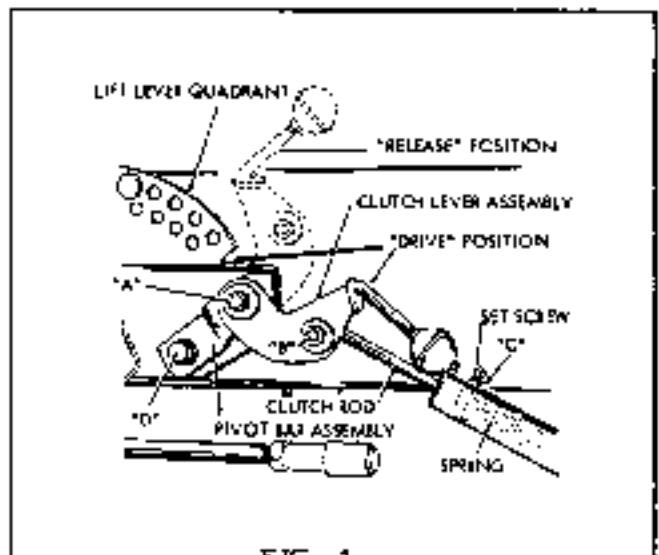

FIG. 4
4. Remove hex capscrew "D" from frame of tractor and mount bracket in place on left lever quadrant (Fig. 4). Position the pivot bar assembly flush against bottom of left quadrant and reinstall the hex capscrew and tighten securely. Check alignment of drive pulley on bevel gear shaft, driven pulley of P.T.O. and idler pulley and adjust driving pulley if necessary.
Operation of the P.T.O. is controlled by movement of the clutch lever assembly. (See Fig. 4). When the clutch lever is in the forward raised position, the clutch rod releases the tension holding the idler pulley against the drive belt and power will not be transmitted to the driven pulley of the P.T.O. assembly. When the clutch lever is in the back, depressed position, the clutch rod applies tension to the idler pulley and as the idler pulley takes-up the slack in the drive belt, power is transmitted from the drive pulley on bevel gear box shaft to the driven pulley of the P.T.O. Fig. 4 shows clutch lever in drive position.
At points "A" and "B" of Fig. 4, check tightness
Place clutch lever in "drive" position and observe clearance between collar "C" (Fig. 4) and end of bracket. When implement is attached to tractor, this clearance should normally be approximately  $3/4$ " at this setting the idler pulley should be snug against the drive belt. If additional tension is required, release clutch lever and loosen setscrew on collar and slide collar farther back on clutch rod. Retighten setscrew in collar and put clutch lever in drive position. Recheck clearance. The tension of the idler pulley against the drive belt must be sufficient to operate whichever tractor attachment is being used. Any additional tension is unnecessary and will only cause premature failure of belts and idler pulley bearings.